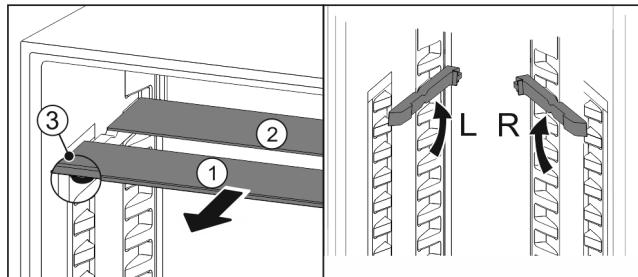

Fig. 82
- ▶ Pull the glass panels out Fig. 82 (1) from the front, one at a time.
- ▶ The glass panel Fig. 82 (1) and trim strip are at the front.
- ▶ The stops Fig. 82 (3) point down.